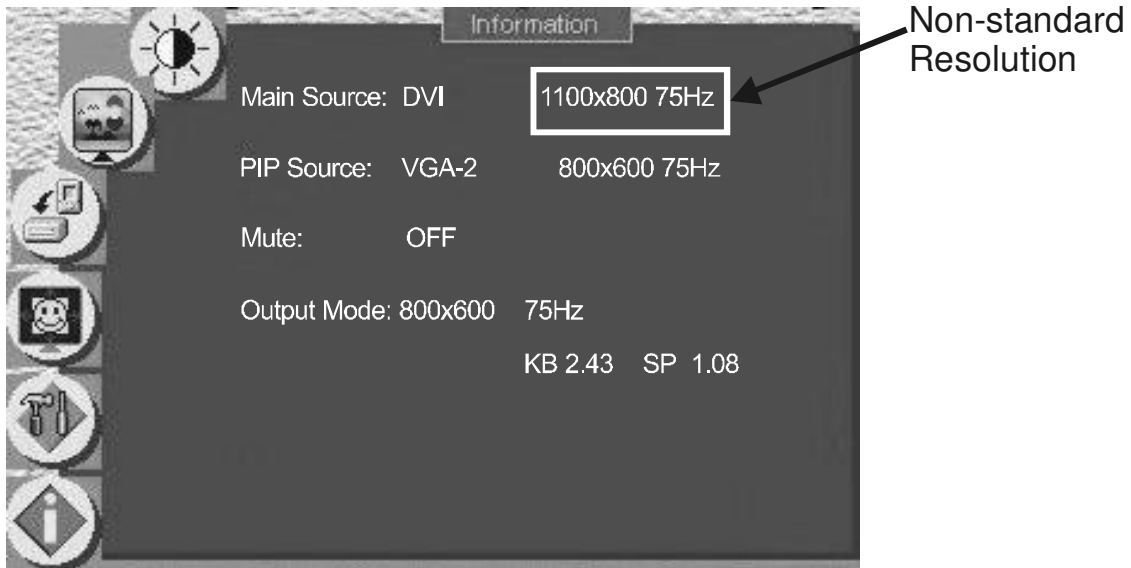

Figure 43: Non-standard Resolution in the Information Screen
8. Open the Information screen and check that the new resolution appears in the Main Source line² (see Figure 43).